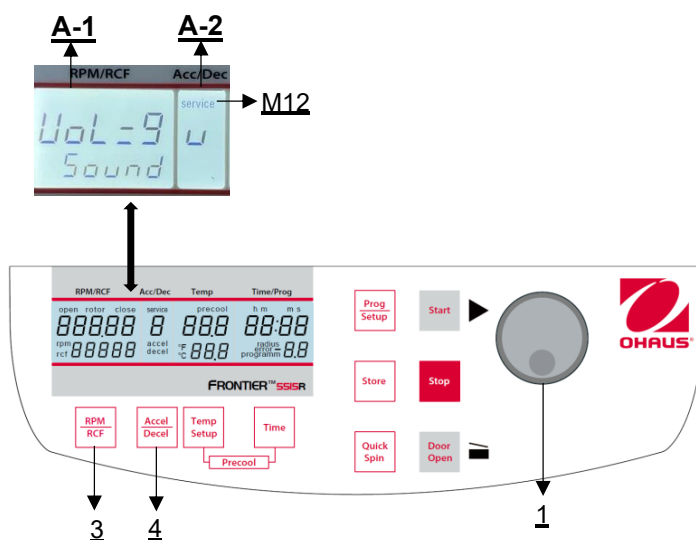

Figure 32
Proceed as described under point 4.1.1 to enter this program mode and then press the key **"Accel/Decel"** (4). In the display **"Acc/Dec"** (A-2) the word **"Service"** (M12) flashes. Now select the letter **"U"** with the adjusting knob (1). As a result, the words "Vol=9/Sound" appear in the display **"RPM | RCF"** (A-1). After pressing the key **"RPM | RCF"** (3), you can adjust the desired volume between 0 (low) and 9 (loud) with the adjusting knob (1) (see Figure 32).